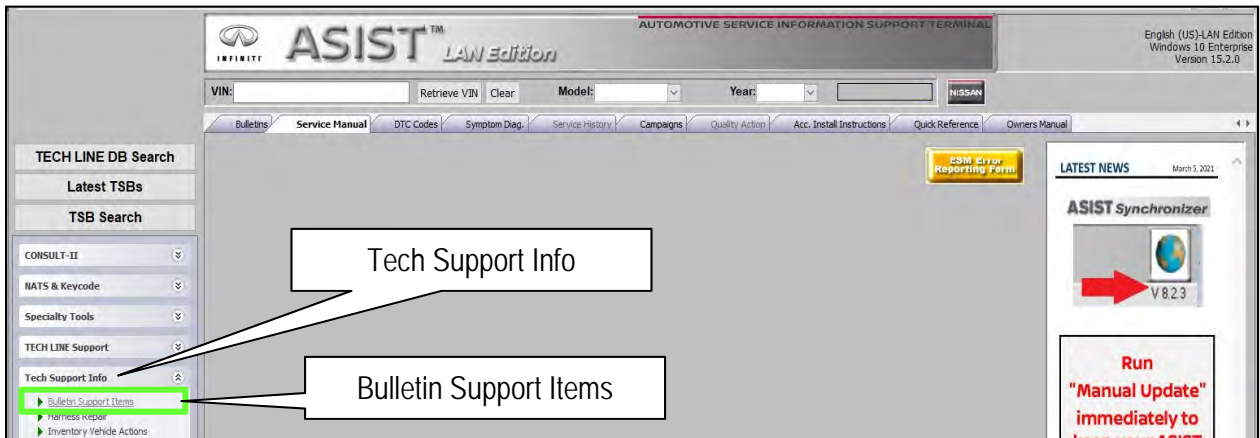
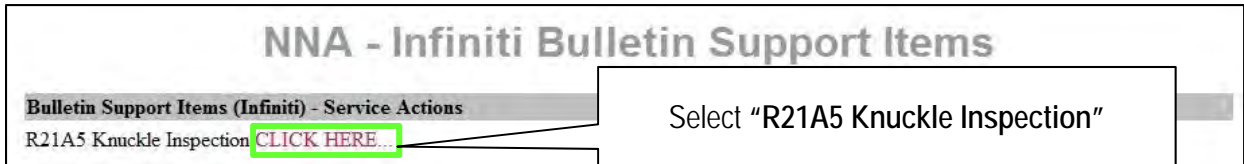

Figure 86
Figure 87
55. Open the ASIST form found at ASIST > Tech Support Info > Bulletin Support Items > R21A5 Knuckle Inspection (see Figure 86 and Figure 87).